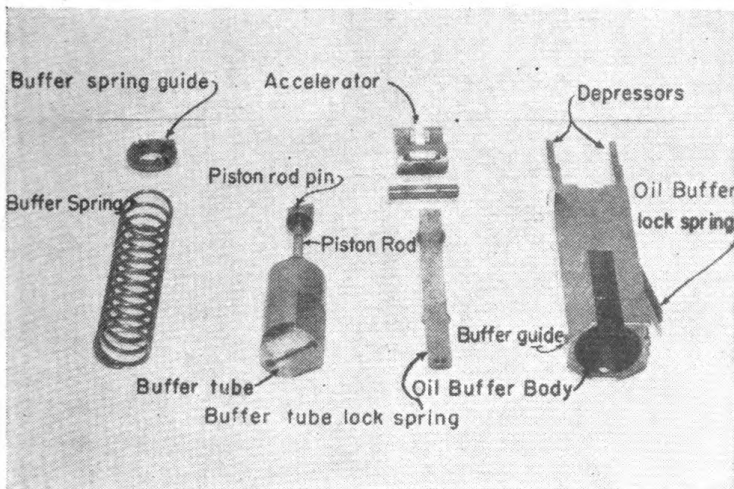

FIGURE 39.—Oil-buffer group.
Q. Identify the component parts of the oil-buffer group. A. See figure 39.
(1) The driving spring rod assembly is normally disassembled only when it is necessary to replace the driving spring. To disassemble it, drive out the collar stop pin from the driving spring rod and remove the collar and the driving spring. Next, disassemble the bolt assembly. Remove the extractor by rotating it upward and pulling it out from the bolt. Do not disassemble the ejector from the extractor unless absolutely necessary. To disassemble the ejector, drive out the ejector pin and remove the ejector and ejector spring. Remove the bolt switch from the bolt.
(2) Rotate the cocking lever fully to the rear and release the firing pin by pushing down the sear. Remove the cocking lever pin and cocking lever. With thin end of the cocking lever, push the sear stop to the right until it is in the center of the slot, then turn the bolt over and push the sear stop out of engagement with the firing pin spring. Reverse the bolt and remove the sear stop from the slot. Remove the sear, sear slide, and sear spring. Elevate the front end of the bolt, allowing the firing pin extension and firing pin to slide out. The firing pin spring can be removed from the firing pin extension by driving out the firing pin spring stop pin. Take precautions to prevent firing pin spring from flying out during the operation.
Q. Explain the procedure in disassembling the oil-buffer group. *A.* See figure 39. Drive out the accelerator pin and remove the accelerator. The remainder of the oil-buffer assembly is not disassembled unless absolutely necessary for repairs or replacement. To remove the oil-buffer tube, push in on the end of the oil-buffer piston rod so that the tube may be gripped by hand and pulled to the rear. The oil-buffer spring guide is depressed until it clears the piston rod pin and then is turned until the pin will pass through the slots provided in the guide. Remove the guide and spring.